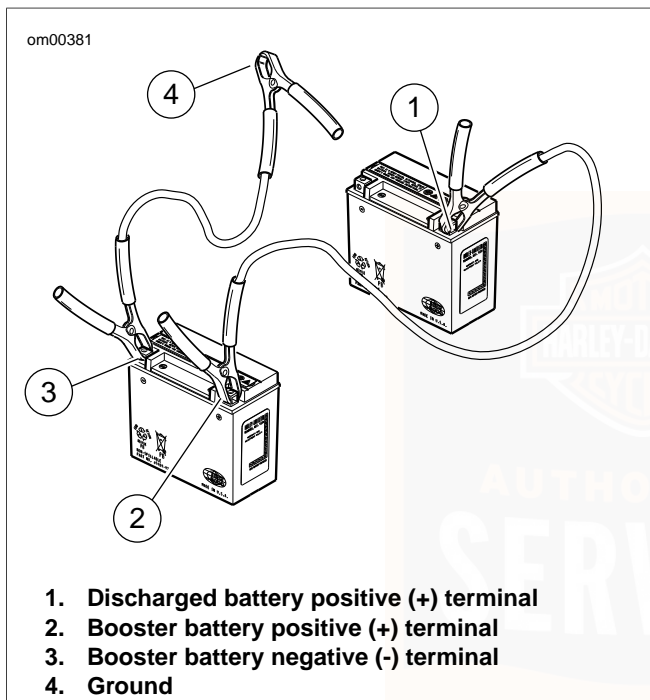

Figure 65. Jump Start Cable Connections
2. See Figure 65. Connect one end of a jumper cable to the DISCHARGED battery positive (+) terminal (1).
3. Connect the other end of the same cable to the BOOSTER battery positive (+) terminal (2).